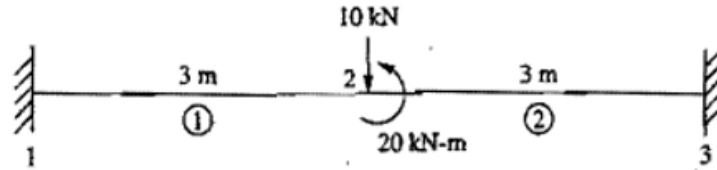

Figure 2
- (b) Determine the displacement and rotation under the force and moment located at the center of the beam shown in Figure 2. The beam has been discretized into the two elements and the beam is fixed at each end. A downward force of 10 kN and an applied moment of 20 kN-m act at the center of the beam. Let $E = 210\text{GPa}$ and $I = 4 \times 10^{-4} \text{ m}^4$ throughout the beam length. [7M]